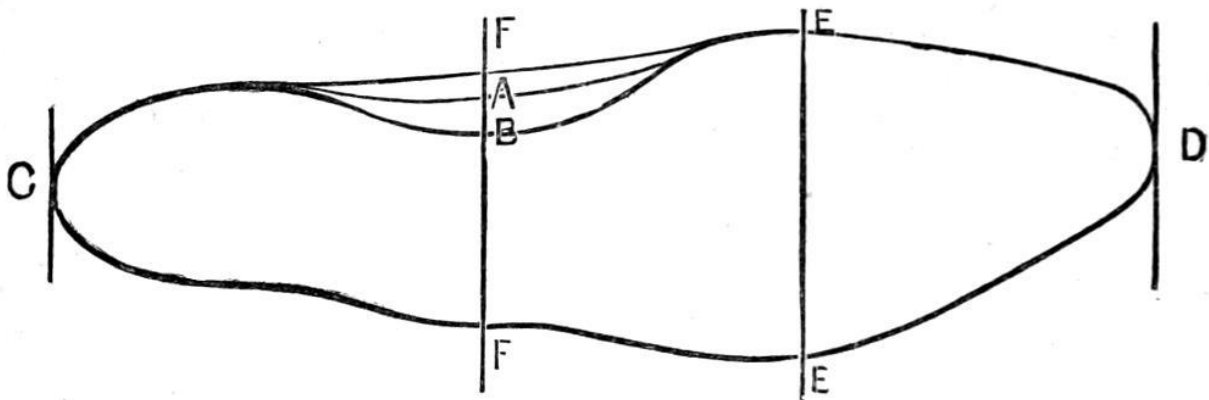
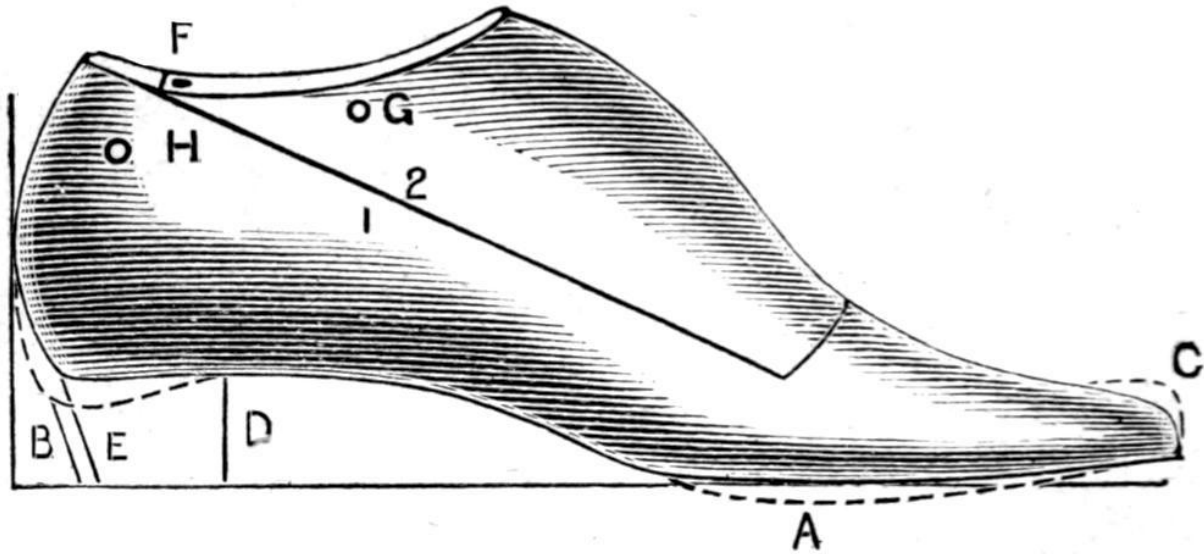
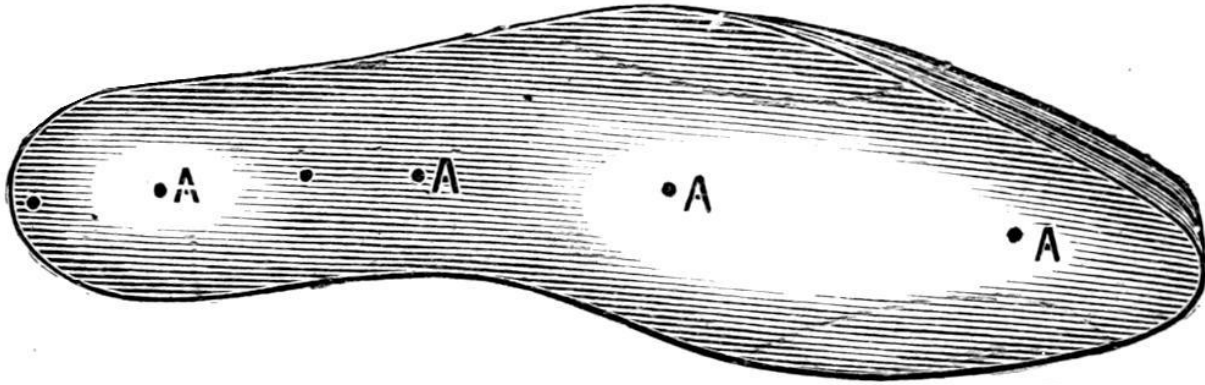

Fig. 64.—Shape of Foot Drawn on Paper.
Fig. 68.—A Last.
Fig. 69.—Bottom of Last.
In making a pair of boots or shoes, the lasts are the first requirements; and these cannot be done without. To know the size wanted, it is necessary to take the measurement of each foot. To do this, place a sheet of paper on the floor or any smooth surface, then let the person stand full weight upon it, and draw on the paper an outline of the foot, being careful to hold the pencil quite upright, especially at the toe, D, and heel, C (Fig. 64). Then, to show the curvature of the waist, draw a second and third line, as A and B. It is customary to take the length of the foot with a size-stick, but as the only use for this tool is to measure the last, it is not necessary to give an illustration of it. A size-stick is in the form of a rule, and has at one end an upright at right angles, and another to slide along so that it can be set to the top of the toe to indicate the length on the foot, as the stick is pressed against the sole of the foot and the fixed upright at the back of the heel.
Fig. 65 represents a shoemaker's penny tape measure; on one side it has inches, and on the other sizes which are three to an inch. With this tape take the length of the draft from C to D (Fig. 64), and, supposing it to measure size 5 (A 5's last measures just 10 in), you will need a last size 7. The length
The next measurement to be taken is the joint; and this should be done in inches. The tape must encircle the whole joint, and be drawn only just tight; it must pass under the foot at *E E* (Fig. 64), and over the great toe joint and knuckle of the little toe, *A B* (Fig. 66). This measurement is then marked on
the draft, and so with each until all are taken. Take the second joint, C D (Fig. 66), passing round the larger parts of the ball of the foot. Next the instep, E F (Fig. 66), letting the tape pass under the hollow of the inside waist, E, across the bone marked F in Fig. 64, and the instep bone, F. The heel measure is taken, passing round (G) the extremity of heel, under the ankle bone (H), and across the throat of the foot (I). The leg measure is taken about $1\frac{1}{2}$ in. above the ankle bone (H), and encircling the leg from J to J.
The dotted lines in Fig. 68 indicate the parts of these lasts that are usually faulty; but with a little skill and trouble the superfluous material can soon be removed with a good rasp. In doing this, the bottom of the lasts should be shaped as in Fig. 69. This method will save the trouble and expense of having a pair made by the last maker, and a really good shape can be got to match the shape of your foot by yourself as well as by anyone else; you then take the credit of making the boot and also of fitting the last, and this will give you confidence to fit a pair to any other person's foot.
Fig. 68 shows the proper shape of a last—it is not rounded too much at the bottom (A), nor does it project too much at B or C. A round bottom will make the toe turn up, and, while the boot is being worn, will cause undue strain on certain parts of the front or vamp part. Too much stuff at B will tend to throw the heel of the boot too far back, and also make it higher at the waist (D) than at the back, as shown by the two lines B and D. If the last has the dotted part at the heel rasped off, the heel can be built all round in proportion, as shown by D and E. The disadvantage of a last being too prominent at C is that it makes the toe of the upper exceedingly difficult to last in.
In Fig. 69 will be seen three shapes for toes; but the shape of the toe should make no difference in the construction of the last. No matter what the shape of the last is to be, space must be given for the great toe, or a bunion will be the result. It will be seen by comparison with Fig. 64 that the bottom of the last (Fig. 69) is designed to suit the requirements of the foot as it is drawn on the sheet of paper (Fig. 64).
The insoles require to dry whilst fixed on the last. They must be marked with the sewing-awl to the shape of the last, then cut out, and while still wet the grain side is buffed or scraped, and the insole tacked grain side down on the bottom of the last with four tacks in the middle, as A, A, A, and A, shown in Fig. 69, p. 65. The sides should then be stretched all round with a pair of pincers, and the leather tacked down to keep it tight to the bottom of the last till nearly dry; this is called blocking the insoles.